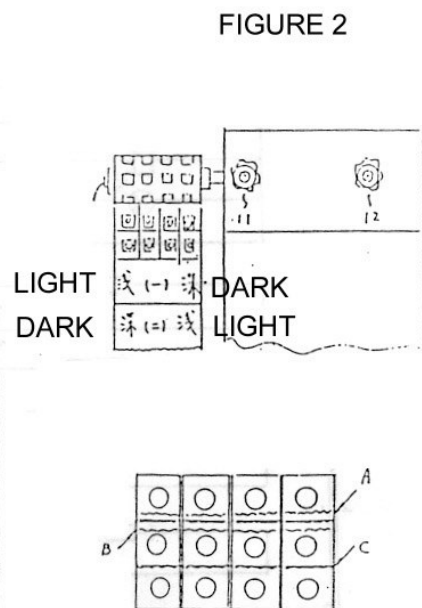

FIGURE 2
- a) In case of case 1 (see figure 2), adjust the knob (item 12) count-clockwise until the pattern become uniform.
- b) In case of case 2 (see figure 2), adjust the knob (item 11) clockwise until the pattern become uniform.
- a) Switch on motor to make the sealing wheel rotating to the position of sealing and adjust the cam (item 24) to its highest position.
- b) Move the pause bar (item 25) upwards to make the pill or capsule passing through easily, and then tighten the locking screws (item 21).
- c) If the pill or capsule is not fed correctly, adjust the cam (item 24). If the pill or capsule is locate above the medicine bag caused by too slow feeding, adjust the cam clockwise, and if the pill or capsule is located below the medicine bag caused by too quick feeding, adjust the cam (item 24) count-clockwise. Increasing or decreasing the speed of machine will affect the feed position, so the speed of machine should not be changed in a hurry.